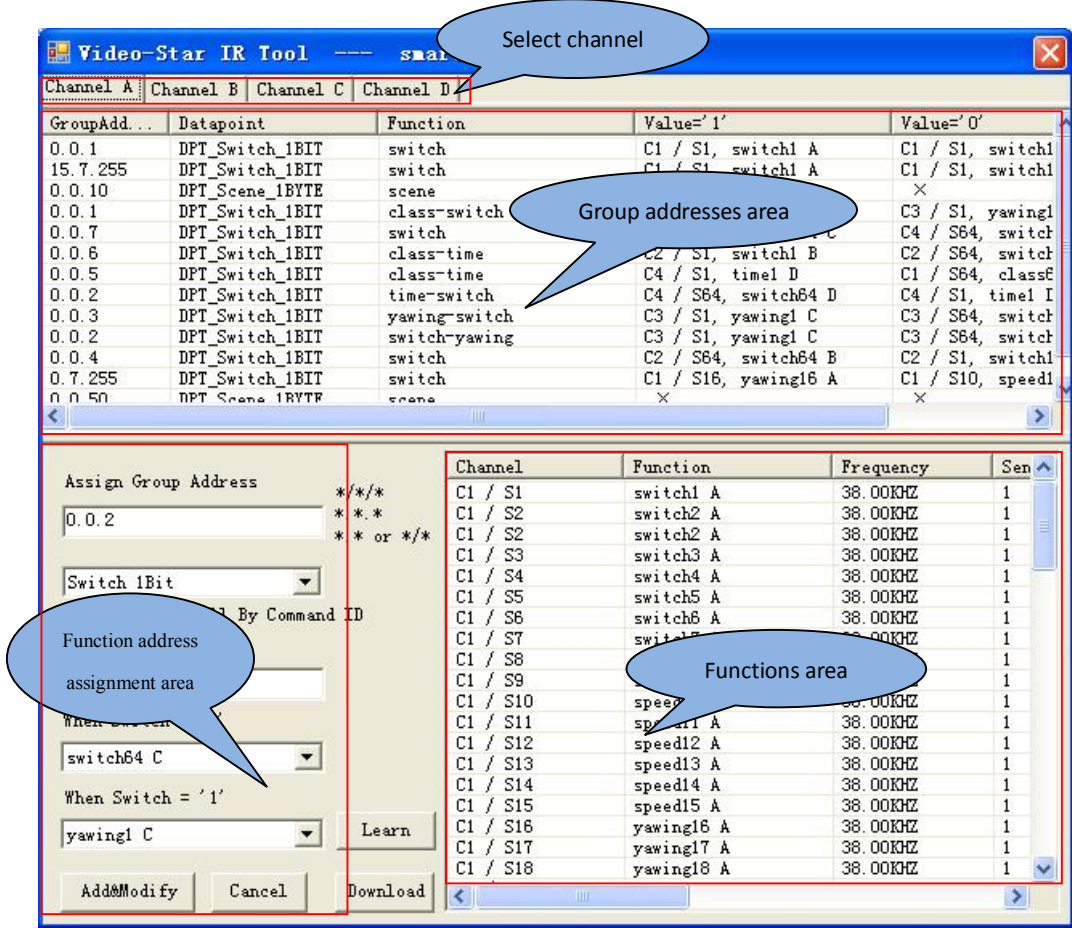
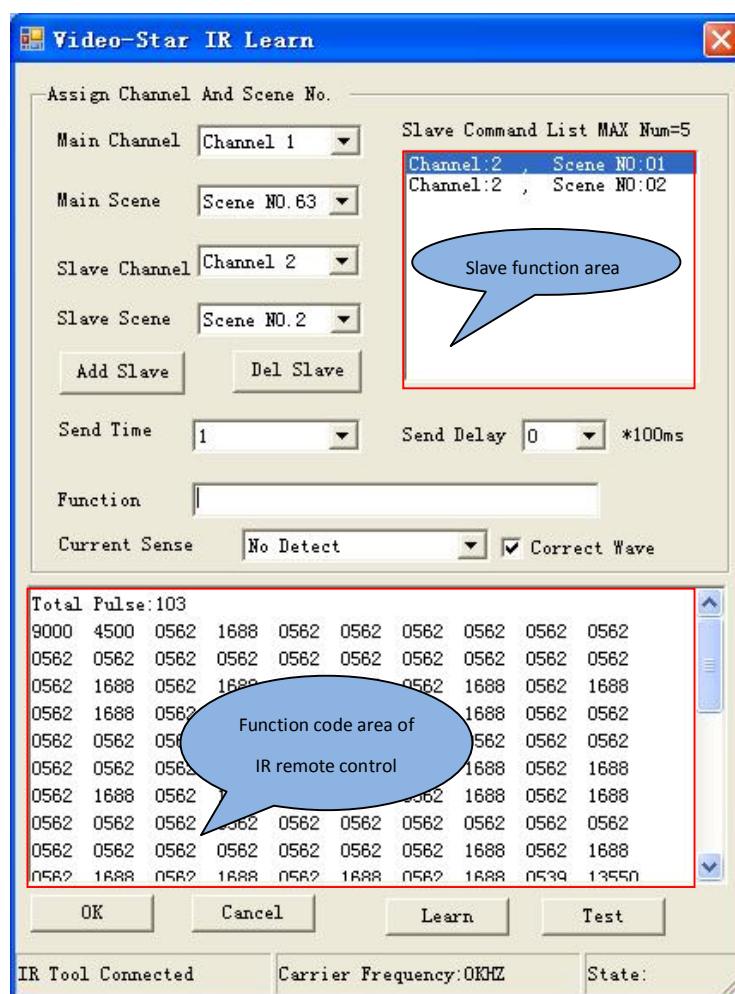

Fig. 4 The function configuration window
Fig. 6 Learning IR remote control function window
IR config: Click this button, the load configure window will appear, shown as fig. 3. Here is a list of configuration files, and at least has one record, otherwise appear a alarm shown as the down-right figure. Select a configuration file and click the “Load” button, the corresponding function configuration window will appear, shown as fig. 4. If Click the “Cancel” button, the software will back to the window of the first configuration file. When import other configuration file, the information will be updated in the group address area and the function area immediately.
The function configuration window is shown as fig. 4. Here you can assign a group address to a learned IR remote control function. Via the group address the IR Emitter can communicate with other devices on the bus. Meanwhile, you can recall these functions via 1bit or 1byte datapoint type.
New configuration: This command is used to add a new configuration file, as shown fig. 5 dialog box, prompting you input the name of a configuration file. After save, a blank function configuration window will appear, as shown fig.4, but there is no data on the function area and group address area. Here can add up to 16 configuration files.
Add new: To add a new function, as shown on fig.6.
All information in the function area can be configured in fig.6. Each function can be configured 64 functions at most, so there are Max. 256 functions in the function area for 4 channels. Meanwhile, each main function can attach up to 5 slave functions which scene number must not to be the same as the main function's.
To learn the control code of common function of IR remote control, as shown on fig. 6. Here can learn and configure all information for the function area via a IR Learner. Clicking the button "Learn" in fig.4, you will open the following window, and learning the functions of IR remote control.
1. **Learning:** Click the button “Learn”, right now the button becomes “Learning”, then put the IR detector of Remote Controller as near as possible to the IR detector of the IR Learner, and press the function key of the IR remote control, then in fig.6 the function code area will display the control code information of the function key, such as frequency, pulse count. Meanwhile, the button “Learning” changes back to “Learn”.
In fig .6 Main configuration parameters as follows: